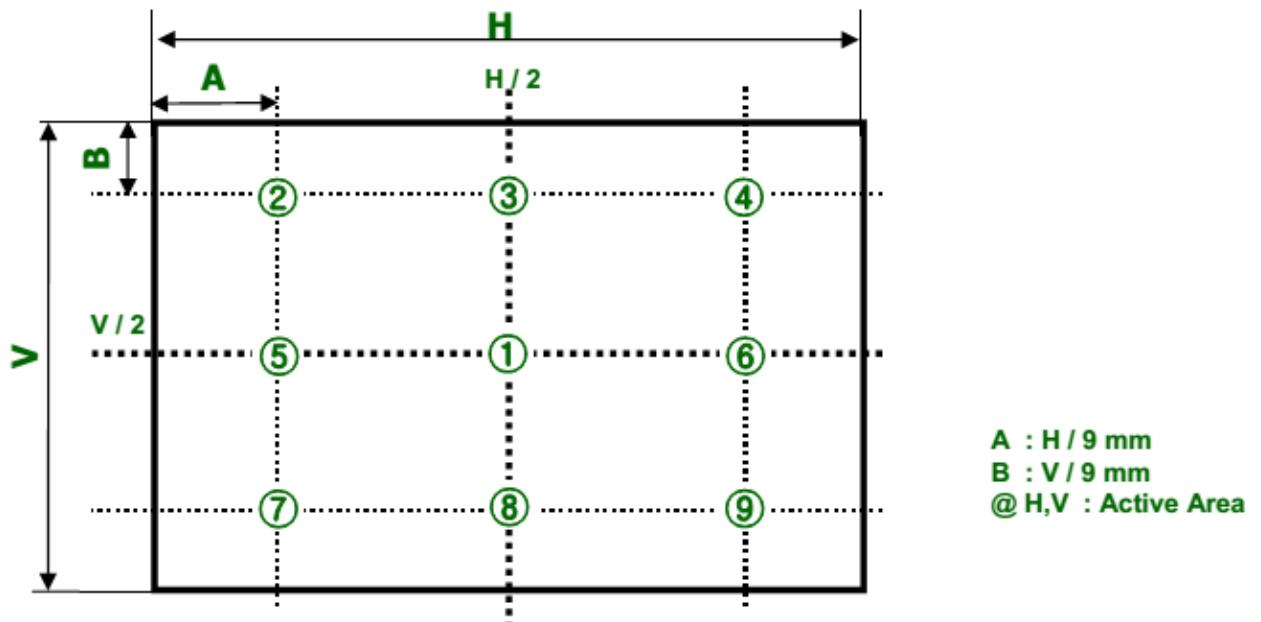

FIG . 2
2. Surface luminance is determined after the unit has been 'ON' and 1 Hour after lighting the backlight in a dark environment at $25 \pm 2^\circ\text{C}$. Surface luminance is the luminance value at center 1-point across the LCD surface 50cm from the surface with all pixels displaying white. For more information see the FIG. 2
3. The variation in surface luminance , WHITE is defined as :WHITE(9P) = Minimum (Lon1,Lon2~ Lon8, Lon9) / Maximum (Lon1,Lon2~ Lon8, Lon9)*100 Where Lon1 to Lon9 are the luminance with all pixels displaying white at 9 locations For more information, see the FIG. 2.